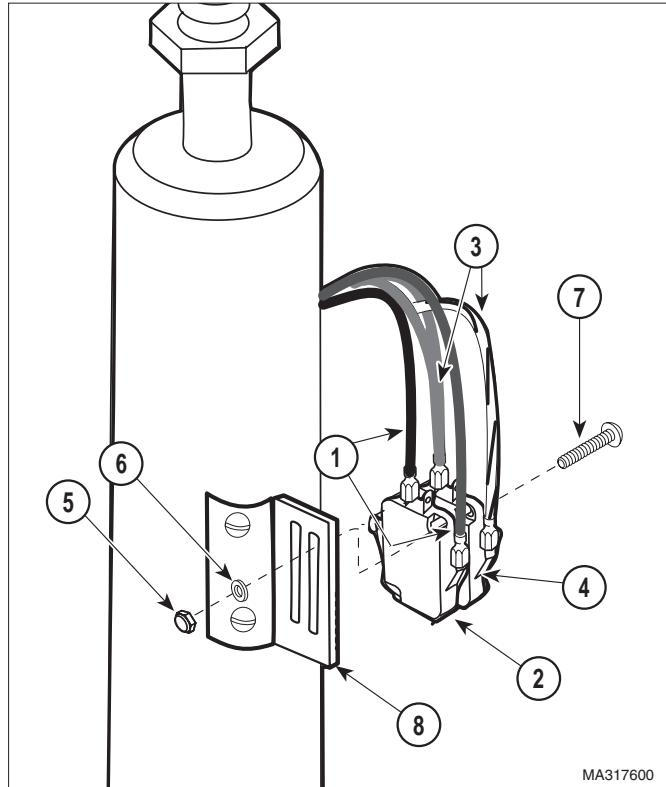

Figure 4-11. Wires Disconnection / Connection
- (4) Remove two screws (5), lockwashers (6), and switch bracket (7) from shaft of base actuator (8).
- (5) Tag and disconnect two wires (1, Figure 4-11) from base down limit switch (2).
- (6) Tag and disconnect two wires (3) from seat down limit switch (4).
- (1) Install limit switches (2 and 4, Figure 4-11) on switch bracket (8) and secure with two screws (7), lockwashers (6), and nuts (5), making sure to position the limit switches in approximately same position as they were removed.
- (7) Run TABLE UP function up until the table top is at 2/3 of its total height.
- (8) If limit switches trip too early, loosen two screws (7, Figure 4-11) and slide limit switches (2 and 4) downward slightly; then tighten two screws (7).
- If limit switches trip too late, loosen two screws (7) and slide limit switches (2 and 4) upward slightly; then tighten two screws (7).
- (9) Repeat steps 7 and 8 until limit switches are adjusted so they trip when table top reaches 2/3 of its total height.